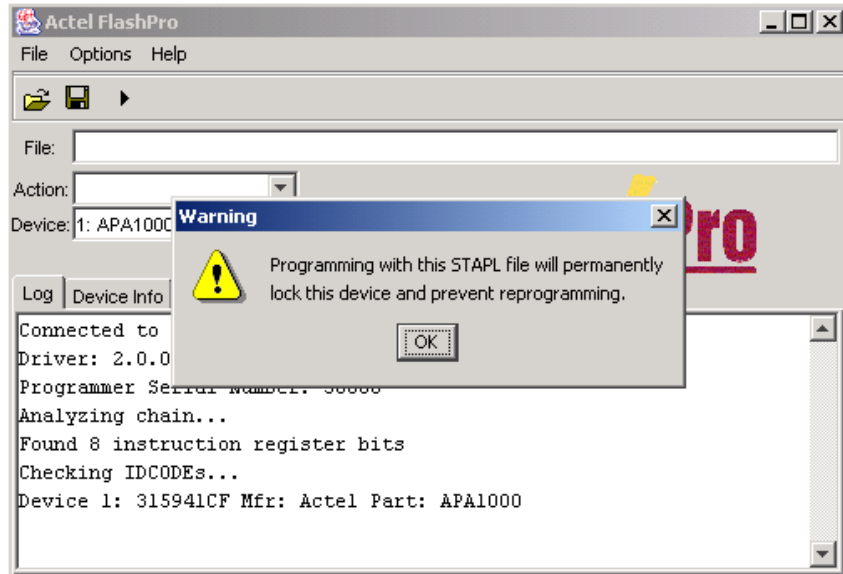

Figure 4-18. Permanent Lock About Dialog Box
2. Select your permanent STAPL file and click *Open*. The Permanent Lock About dialog box displays, as shown in Figure 4-18.